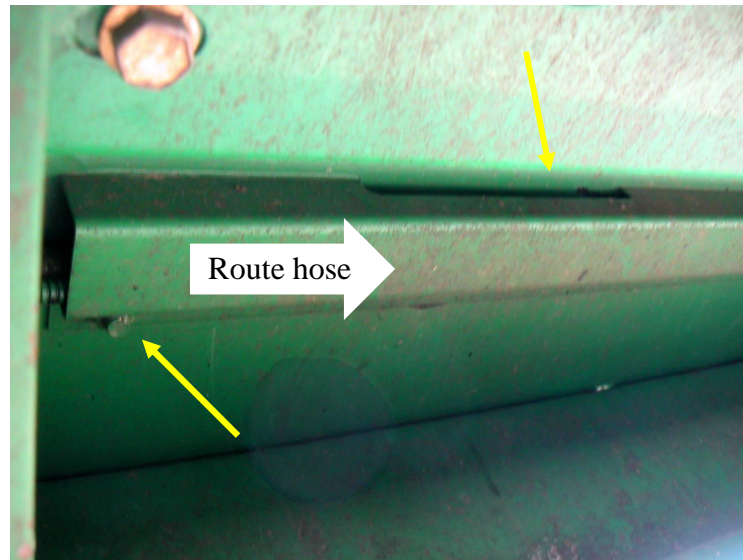

Figure 8
4. Route the right-hand hose along with existing left-hand hose. Re-install shield with the nuts removed earlier. (See **Figure 8**)